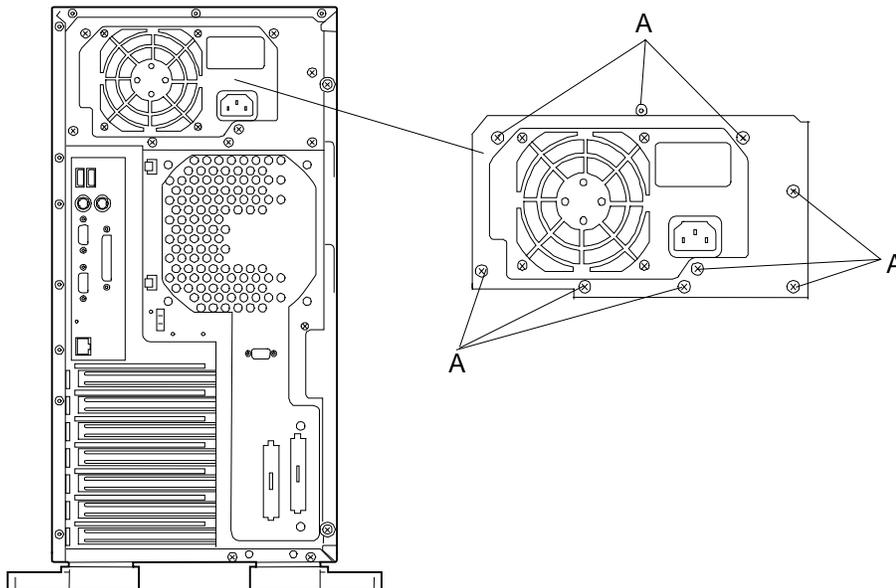

Figure 4-33. Removing the Non-Hot-Swap Power Supply
Your server system may contain a single non-hot-swap power supply that is housed in the rear of the chassis as shown in Figure 4-33.
4. Remove and save the nine screws that secure the power supply to the rear of the chassis. See Figure 4-33.